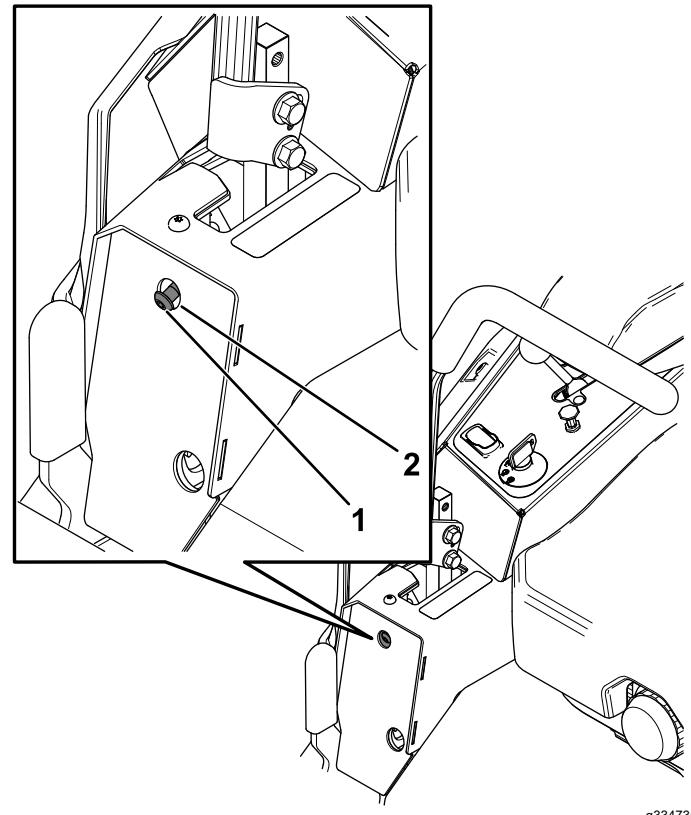

Figure 71
6. If the machine tracks to the right, insert a 3/16 inch hex wrench through the access hole in the left, front cover panel and rotate the tracking screw clockwise or counterclockwise to adjust the travel of the lever (Figure 71).
7. If the machine tracks to the left, insert a 3/16 inch hex wrench through the access hole in the right, front cover panel and rotate the tracking screw clockwise or counterclockwise to adjust the travel of the lever (Figure 71).